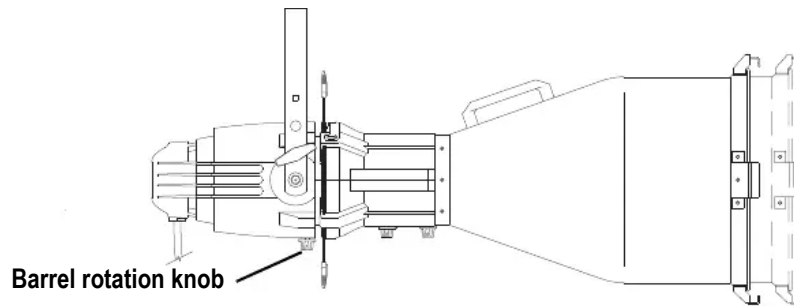

Figure 9
Step 1: Loosen the barrel rotation knob directly behind the shutters on the underside of the reflector housing (see Figure 9). **Do not** remove the barrel rotation knob.